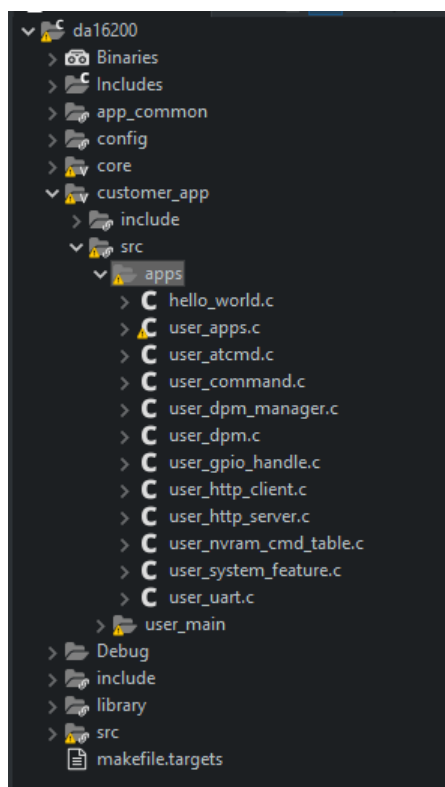

Figure 7: Add User Files to the Eclipse Project
2. Add the written user code files to the Eclipse project. See Figure 7.